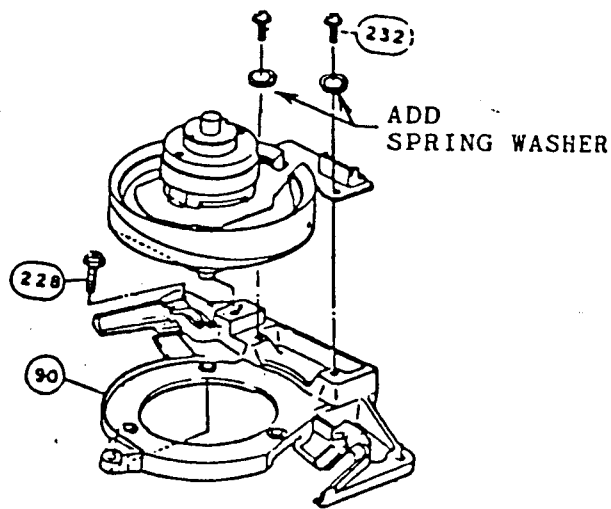

Fig.3
- Remove the 2 screws 232. (fig.3)